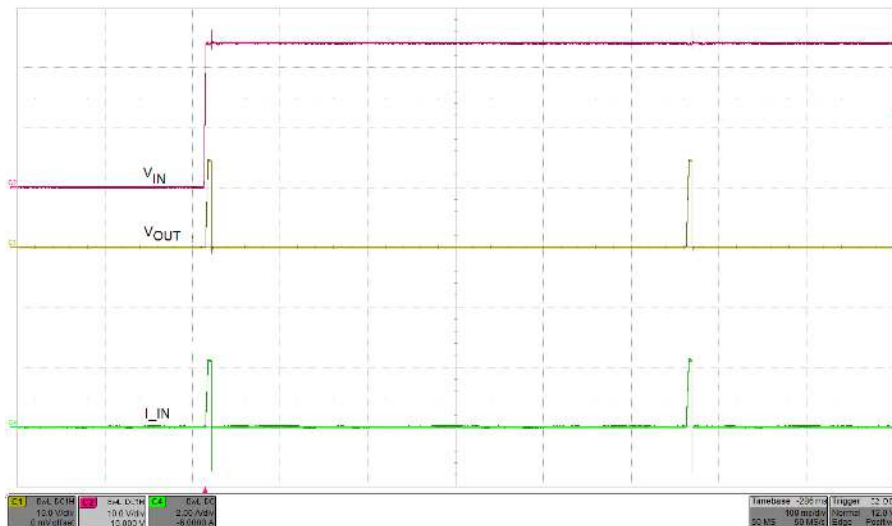

Figure 7. J5/J12 = Floating, Current Limit (2.23 A), Circuit Breaker With Auto-Retry Mode
18. Enable the power supply and verify the circuit breaker with auto retry fault response waveform as shown in Figure 7.